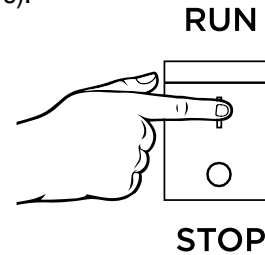

Figure 10 - Engine Control Switch - RUN
5. Push the engine control switch into the **RUN** position (see Figure 10).
4. Push the engine control switch into the RUN position (see Figure 10).